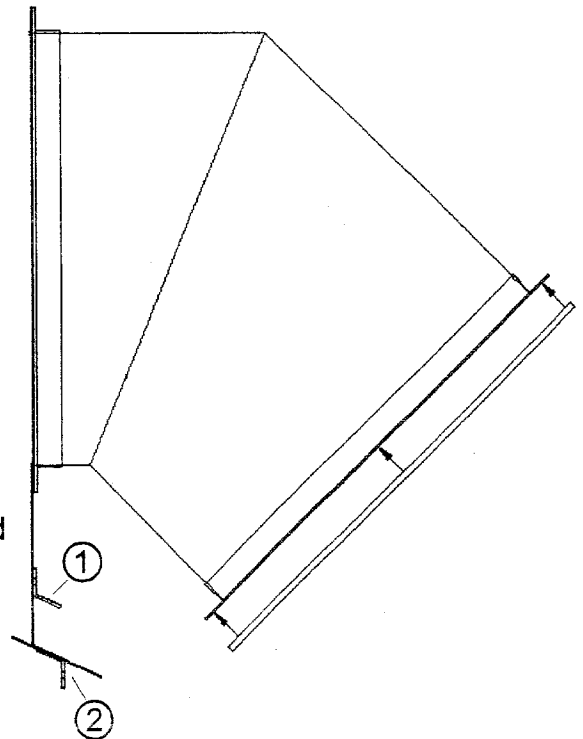

Figure 8. RFR24 Screen Guard Installation
If applicable, bolt angle brace to the support as shown in Figure 8-①. Then field drill angle through sheet rib and bolt together. Field drill the 3 holes in the fan support and, using three 5/16" x 3/4" bin bolts with the neoprene washer head to the outside of the bin, secure the support to the bin sheet.
If unable to bolt to support as shown in Figure 8-①, field drill 3 holes in the roof sheet to match pre-drilled holes in the fan support. Using three 5/16" x 3/4" bin bolts with neoprene washer head to the outside of the bin, bolt angle to support from underneath roof sheet. (See Figure 8-②.)
Step 8: Align the screen guard with the holes in the rainhood and bolt together using the 1/4" x 3/4" bin bolt and nut. (See Figure 8.)